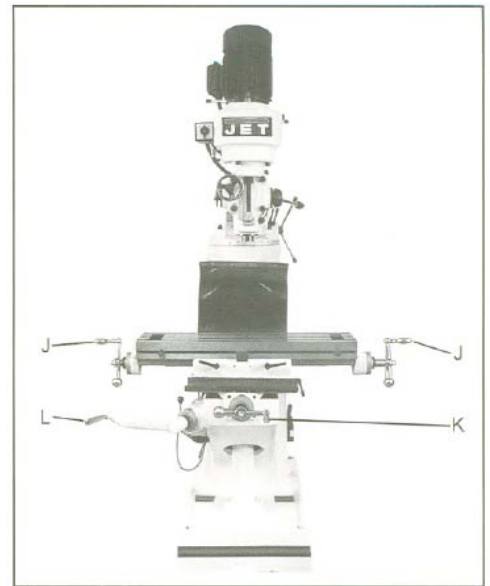

Fig. 6
**K. Longitudinal Movement** (J, Fig. 6) handles located on opposite ends of the table. This controls the X axis.
**L. Cross Movement** (K, Fig. 6) handle located directly in front of the machine. This controls the Y axis.
**M. Knee Handle** (L, Fig. 6) this raises the table up and down.